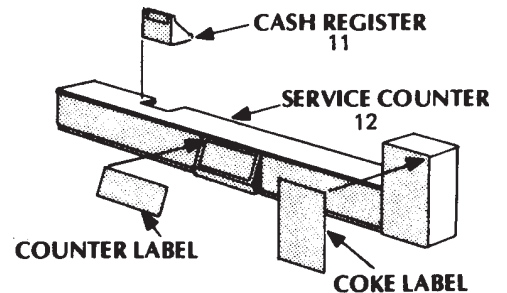

fig. 2
2. Cement the CASH REGISTER (11) to the SERVICE COUNTER (12). Now peel off and stick the COUNTER LABEL and the COKE LABEL to the service counter as shown in (Fig. 2).